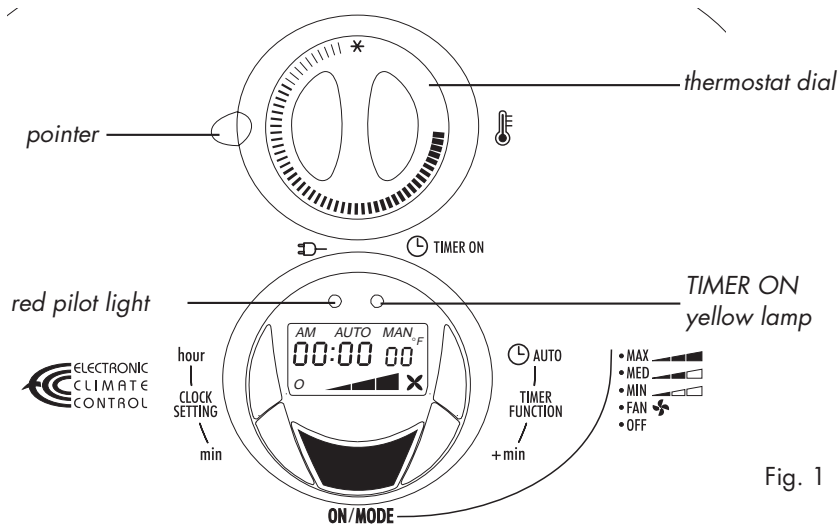

Fig. 1
When you plug in the appliance, the red pilot light will illuminate (Fig. 1).
- Press the button **"hour"** until the display shows the hours for the correct time and AM or PM, then release the button (fig. 1).
- Press the button **"min"** until the display shows the minutes for the correct time, then release the button (fig. 1).
To operate the heater without timer press the **"ON MODE"** button. (Fig. 1). By pressing the **"ON MODE"** button one or more times, the appliance will select the operating heating power, as follows:
If Maximum power has been selected, adjust the thermostat dial (Fig. 1) to the desired comfort temperature, from 42° and 95° F (5°C to 35°C). By turning the thermostat dial the display will show the selected temperature.
Set the thermostat dial to the "\*" position (Fig. 1). The display will show 42°F (see figure).